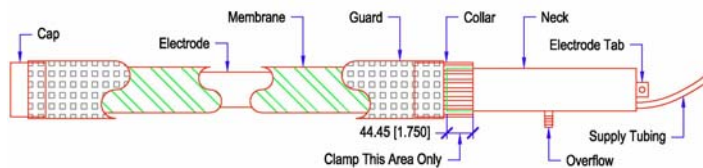

Figure 1
2. Use vise to secure TECTRAN Cell at end of collar nearest top of Cell; lower half of collar will not support pressure of vise. (See Fig. 1.) Support bottom end of Cell with sawhorse.
1. Align shell in pipe vise at top third of collar (see fig. 1) so that blue/black ID mark faces up on seam of membrane shell. Tighten securely but do not crush PVC pipe/collar.